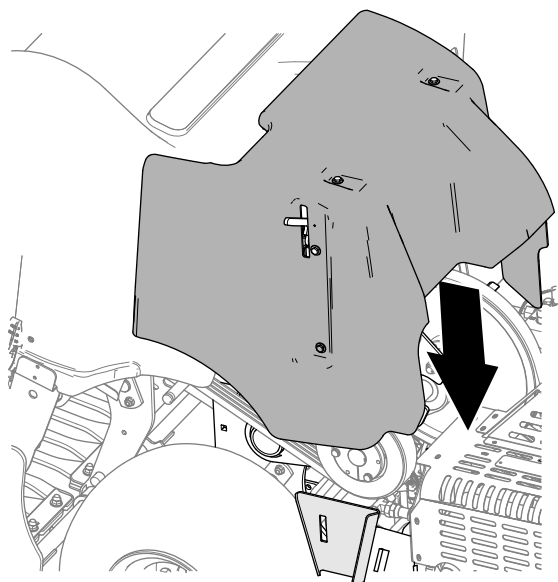

Figure 145
- Lower the belt cover (Figure 145).